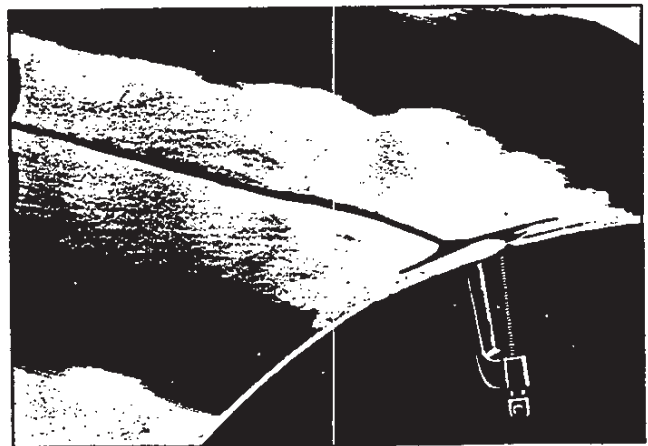

Fig. 59—Cracked Panel Preparation
5. Use "C" clamps to align panel portions allowing approximately 1/8" between the panels or as necessary to provide proper alignment of panels, Figure 59.